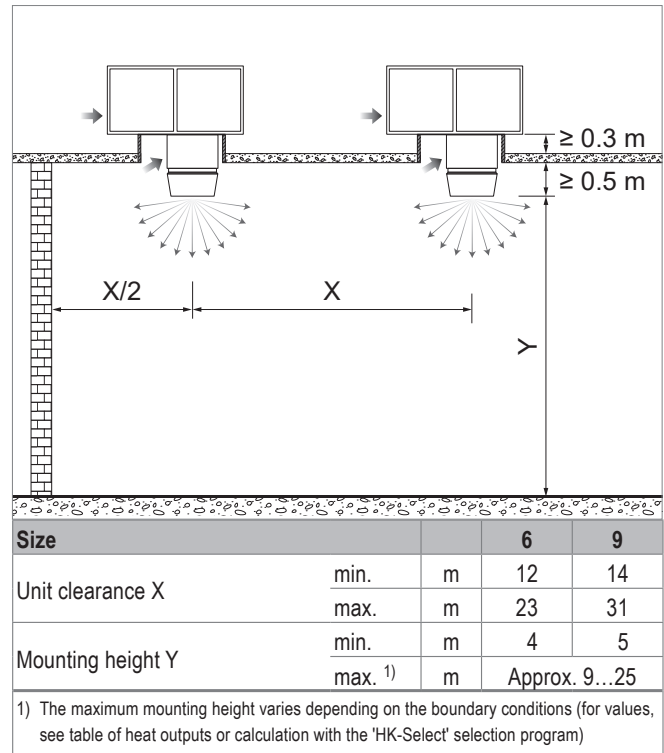

Fig. I1: Minimum and maximum distances
- Observe the minimum distances according to Fig. I1.